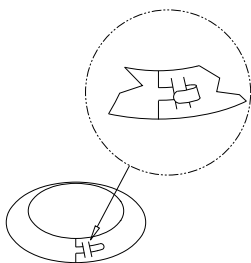

Figure 11
f. Wrap the Collar of the Attic Insulation Shield around the chimney and fasten it loosely. Slide the Collar down to meet the Attic Insulation Shield. Slip the tab through the adjacent slot and fold it back to tighten and secure the Collar (**Fig 11**).